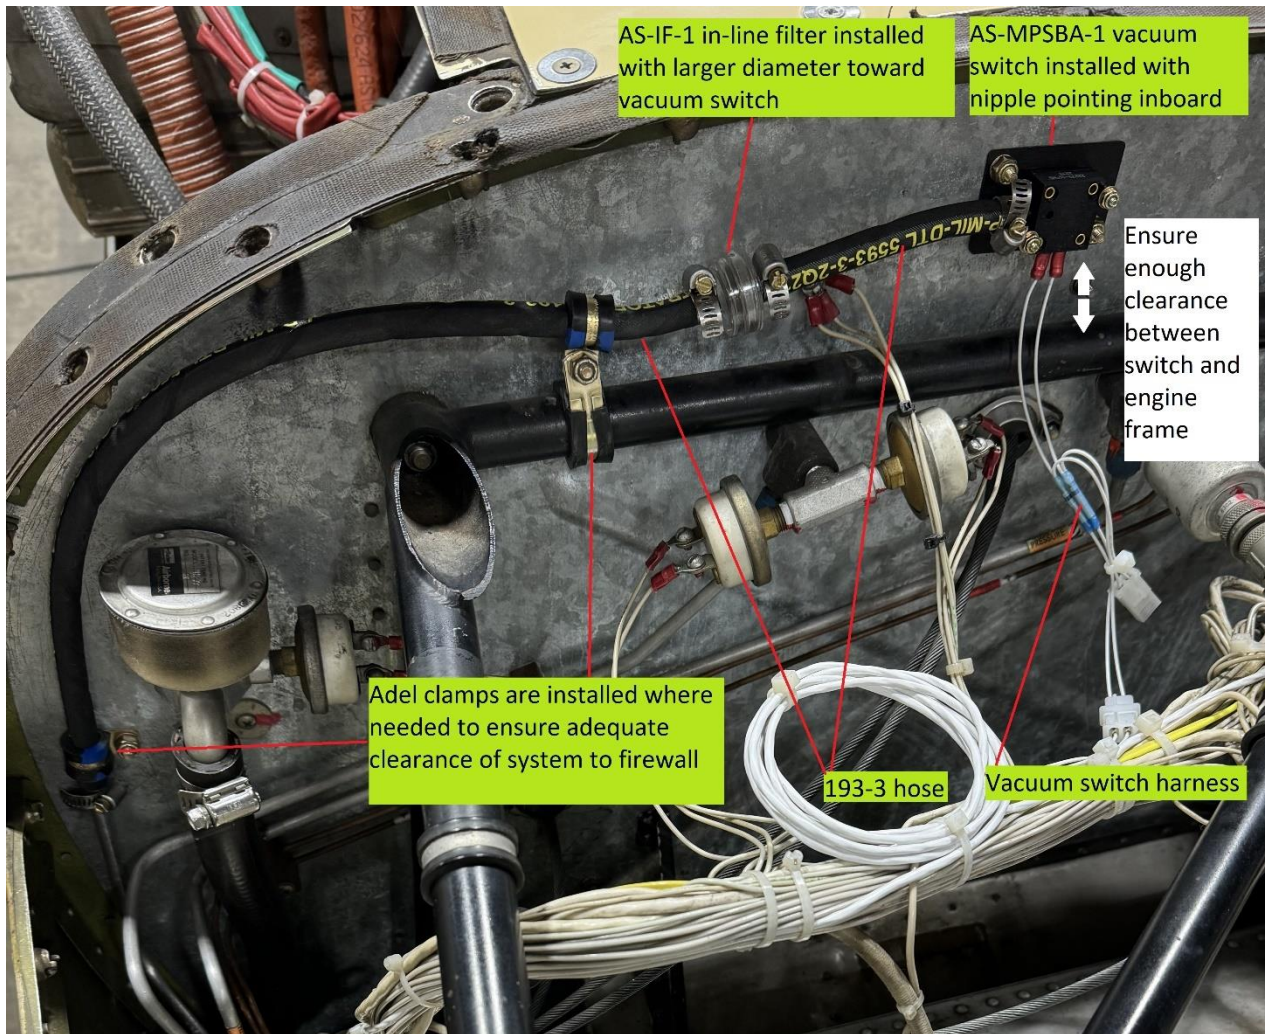
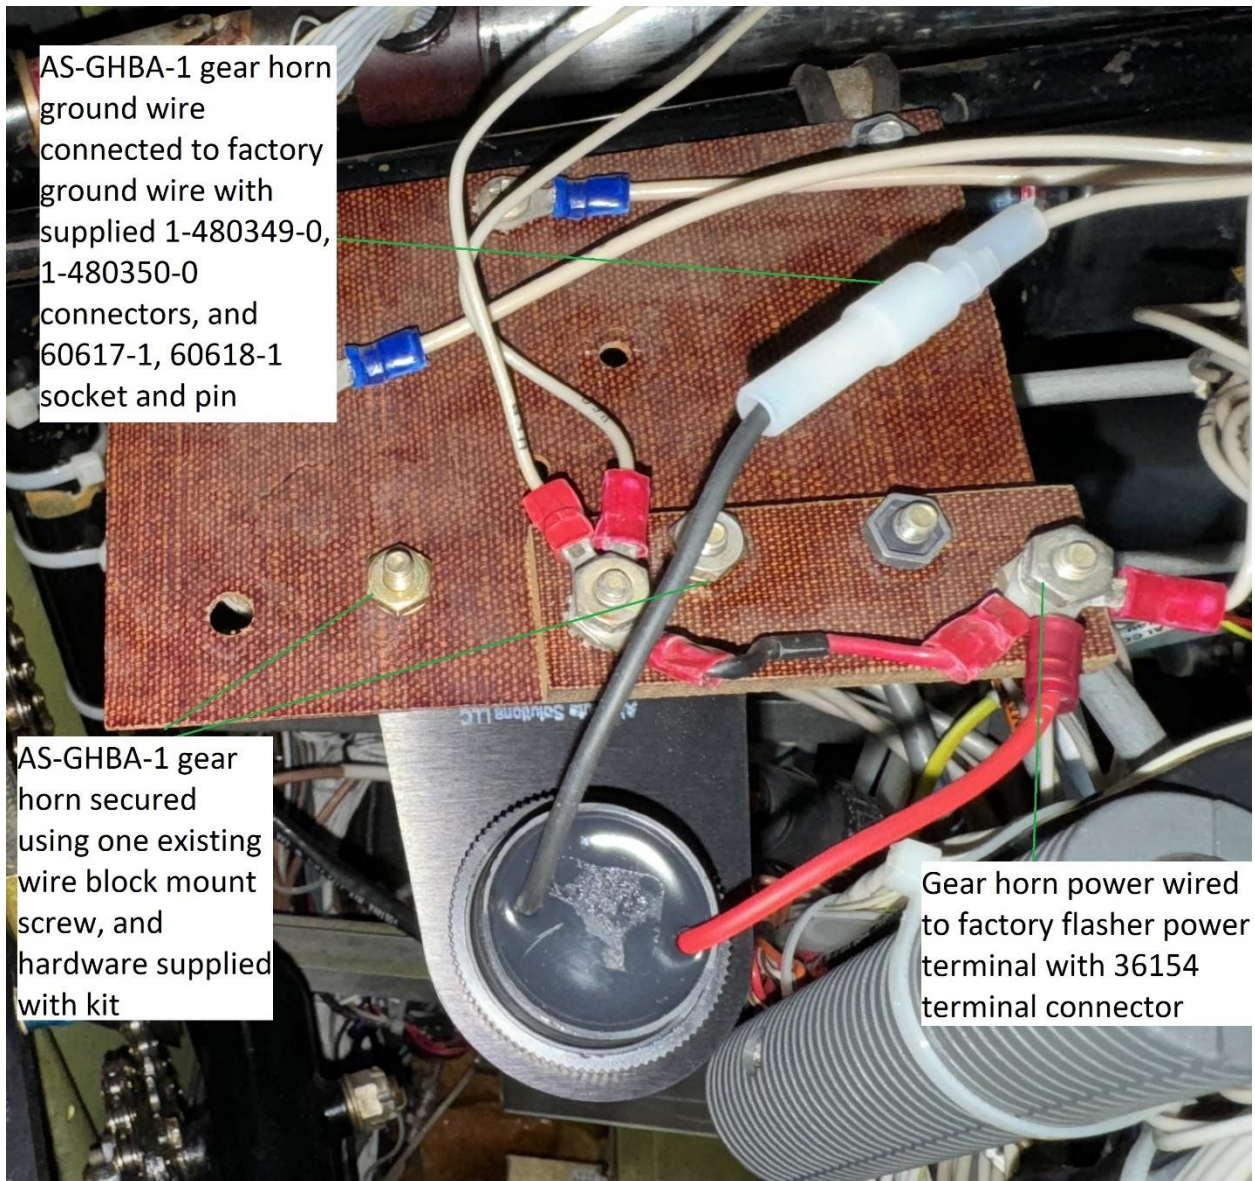
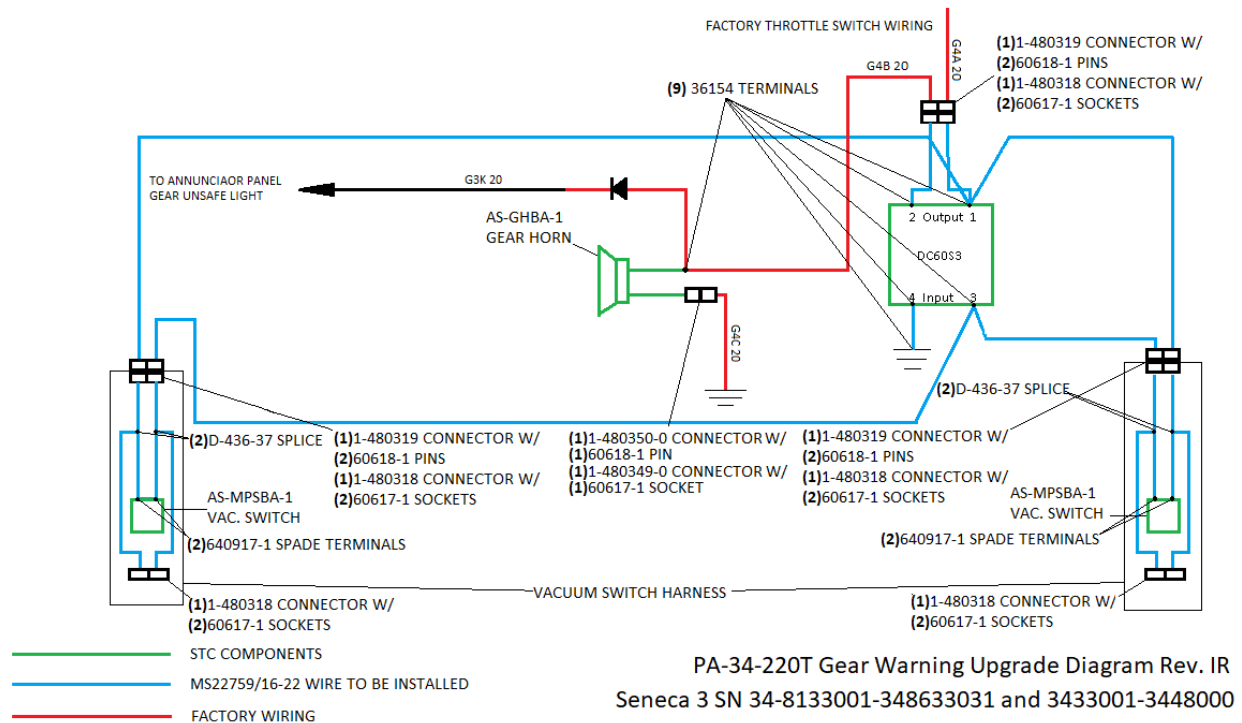

Figure 1-1. AS-MPSBA-1 Vacuum Switch Installation
Figure 2-2. PA-34 AS-GHBA-1 Gear Horn Installed
Figure 3-1. PA-34-220T Wiring Diagram
- 1.) Determine placement of AS-MPSBA-1 vacuum switch in reference to Figure 1-1.
- 7.) See Figure 1-1. Locate suitable point on 193-3 hose, 4-8" inboard of the AS-MPSBA-1 vacuum switch. Install AS-IF-1 in-line filter onto 193-3 hose with 6504 hose clamps.
- 12.) See Figure 1-1 and 1-4. Connect 640917-1 vacuum switch harness spade terminals to AS-MPSBA-1 vacuum switch and ty-rap harness as required to facilitate future accessibility of the test connector.
2. See figure 2-2. Partially install AS-GHBA-1 gear horn into FWD wire block mount hole with existing wire block hardware.
4. Remove AS-GHBA-1 horn, drill marked mounting hole location with a #18 or #19 bit, then reinstall horn with supplied hardware as shown in Figure 2-2. Ensure supplied lock washers are installed under each mount nut.
5. See Figure 2-2 and wiring diagram in Figure 3-1. **Make necessary wiring connections utilizing supplied hardware and standard maintenance practices found in AC 43.13-1B.**
- 1.) Remove throttle position switches with associated brackets. Retain throttle position wires noted in Figure 3-1.
- 3.) Fabricate a two-pin jumper harness from throttle switch wires G4A and G4B to the correct numbered relay terminals noted in Figure 3-1.
- 4.) See figure 3-1. Fabricate (2) two-pin wire harnesses to connect the vacuum switch harnesses noted in Figure 1-1, to the correct numbered terminals on the DC60S3 relay. Wiring between AS-MPSBA-1 switches and DC60S3 relay must be routed along existing wire bundles behind leading edge wing panels. Wire harness can be fabricated using M22759/16-22 wire. **Use standard installation practices referenced in AC 43.13-1B Ch. 11.**